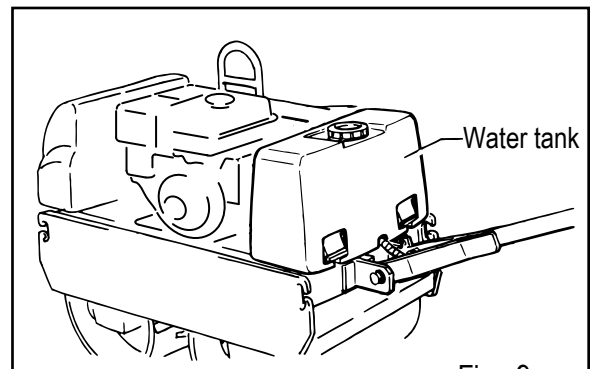

Fig. 9
- For watering work, fill water tank in the back with water. Its capacity is 40 liters. (Fig.9)